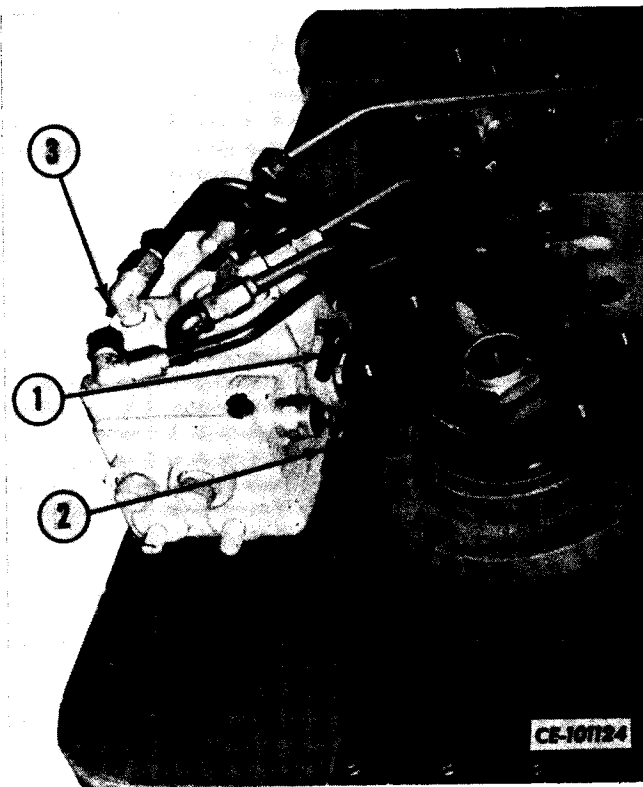

Figure 4-4
- b. Service gauge may be attached to cartridge valve at quick disconnect fitting (3, Fig. 4-4).